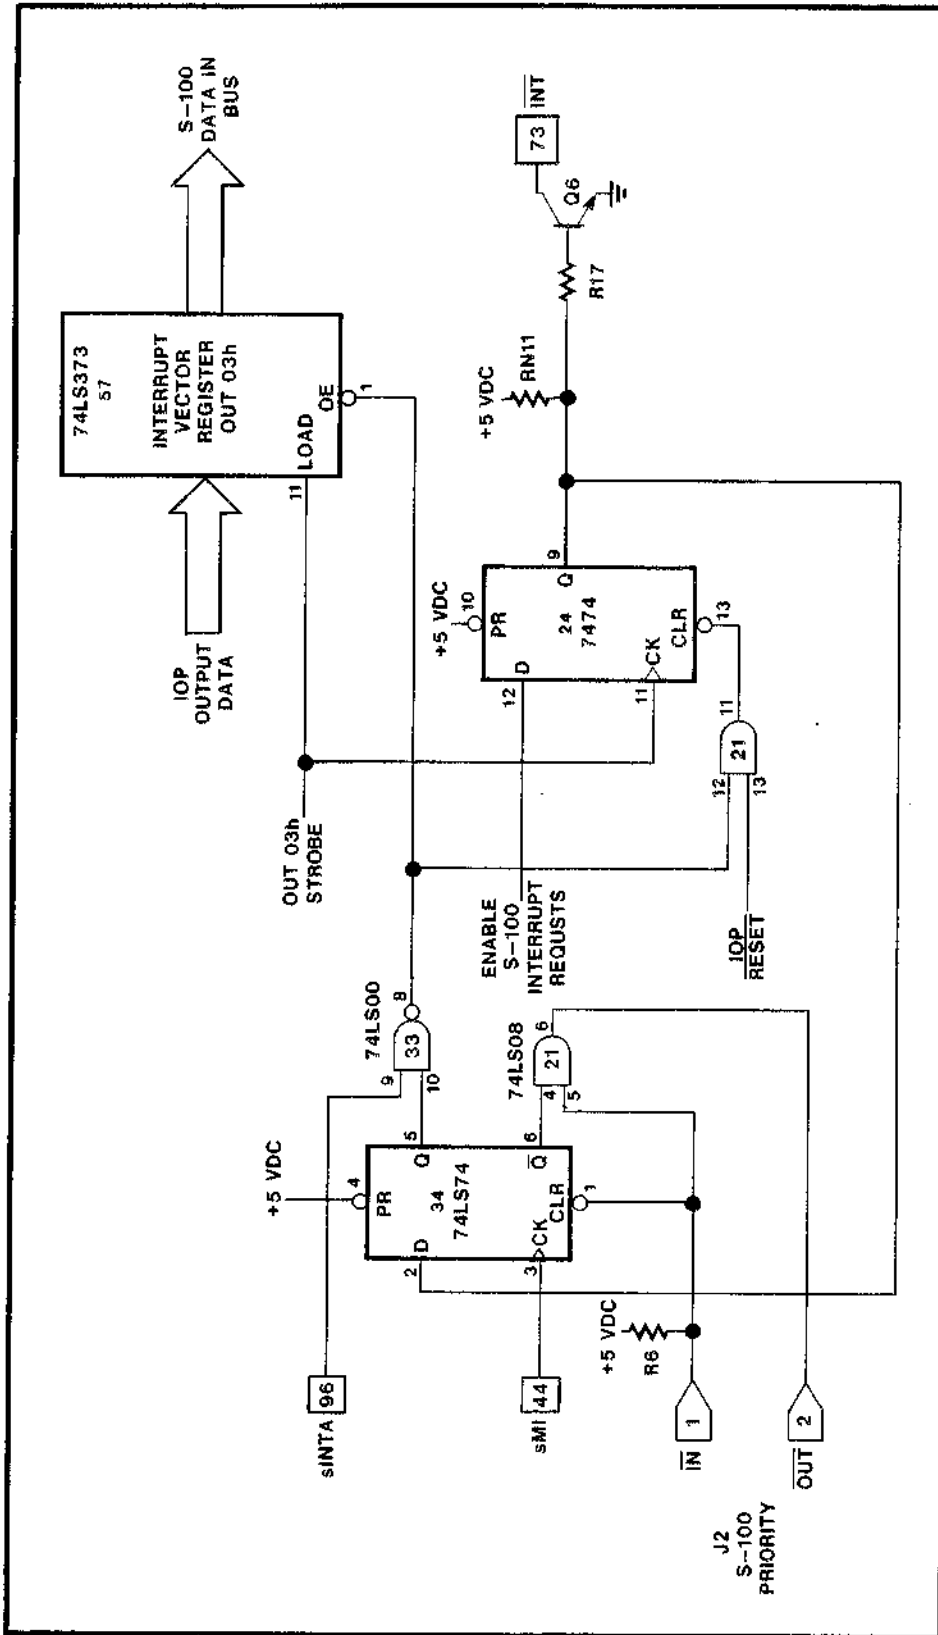

Figure 26: IOP S-100 INTERRUPT CIRCUITRY
The IOP issues maskable interrupt requests to the host CPU as follows: (1) the IOP sets **Control Register** bit **Enable S-100 Interrupt Requests** -- this bit is latched and would typically be set during IOP initialization, and (2) the IOP outputs an interrupt vector byte to the **IOP Interrupt Vector** register. Writing the vector with bit **Enable S-100 Interrupt Requests** set automatically forces S-100 bus line $\overline{\text{INT}}$ active low; writing a vector with the bit reset is a null operation -- see Figure 26. Note that the IOP must output a vector byte to the **Interrupt Vector** register each time it issues a maskable interrupt request to the host CPU.
The IOP PRIORITY IN and OUT lines are brought out at IOP connector J2. These lines behave as follows (again refer to Figure 26):